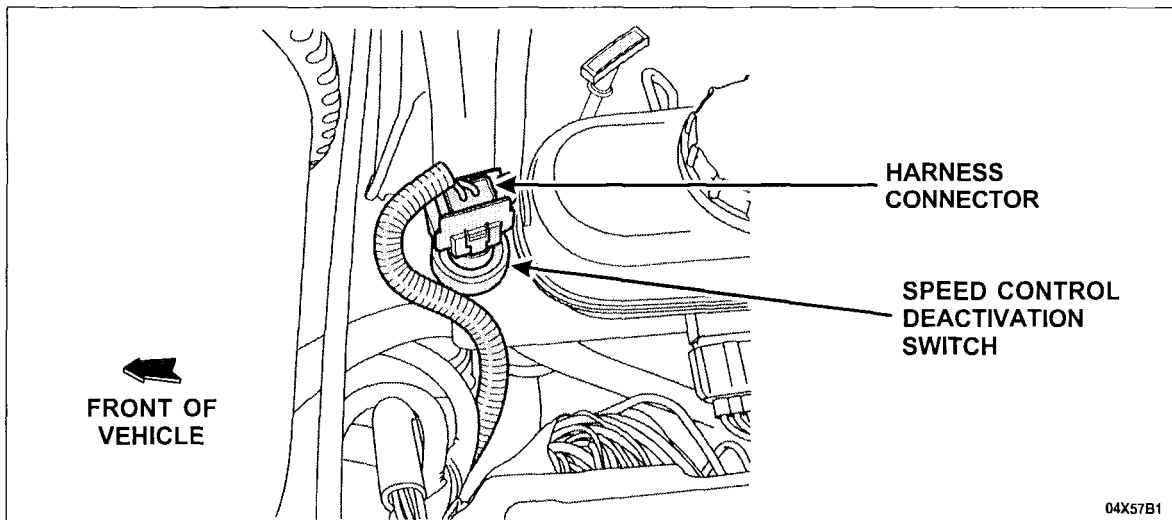

FIGURE 2
1. Disconnect the speed control deactivation switch located on the brake master cylinder and inspect the harness connector for the presence of brake fluid. See Figure 2.